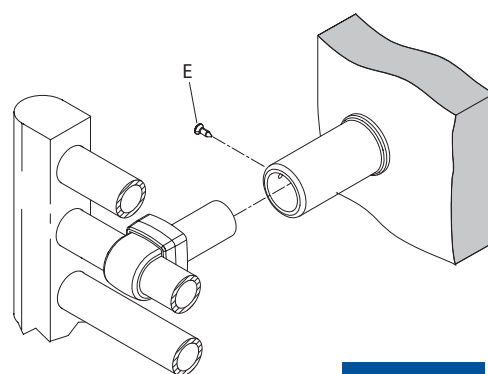

Fig. 5
4. Lift the towel rail complete with the bracket assemblies and align with the outer bracket sleeves which were previously fixed to the wall. Insert the inner sleeve brackets into the outer sleeve brackets and fix in place using the position locking screws (E). The rail is then locked in place by rotating the pins a quarter turn - see Fig. 5.